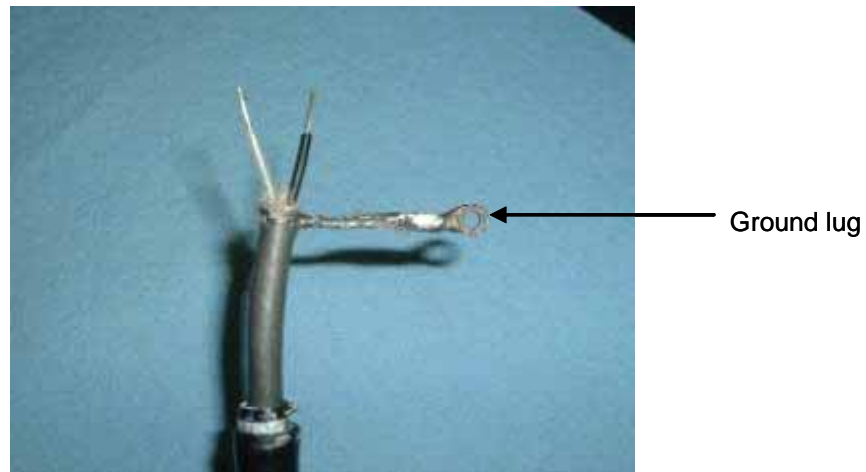

Figure 118. Attached ground lug.
3. Twist the wire shield and attach to the ground lug (figure 118).